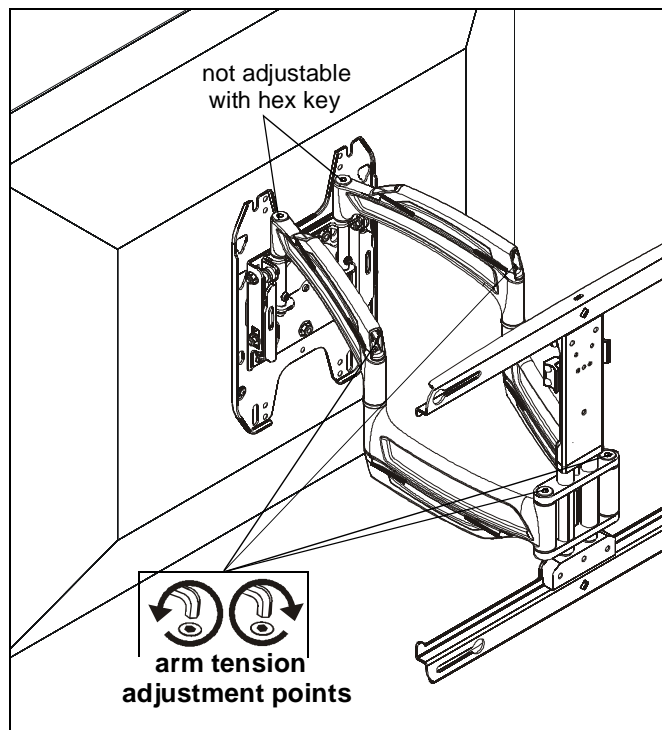

Figure 34
1. Use 1/4" hex key (BB) to adjust arm tension at any of the four arm tension adjustment points. (See Figure 34)